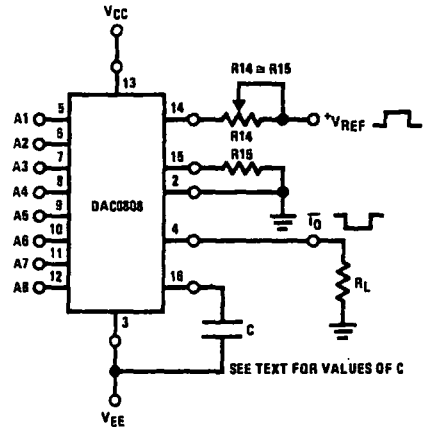

FIGURE 7. Positive  $V_{REF}$  (Note 7)
**Curve A:** Large Signal Bandwidth Method of Figure 7,  $V_{REF} = 2 V_{p-p}$  offset 1 V above ground.
**Curve B:** Small Signal Bandwidth Method of Figure 7,  $R_L = 250\Omega, V_{REF} = 50 mV_{p-p}$  offset 200 mV above ground.
The reference amplifier provides a voltage at pin 14 for converting the reference voltage to a current, and a turn-around circuit or current mirror for feeding the ladder. The reference amplifier input current,  $I_{14}$ , must always flow into pin 14, regardless of the set-up method or reference voltage polarity. Connections for a positive voltage are shown in Figure 7. The reference voltage source supplies the full current  $I_{14}$ . For bipolar reference signals, as in the multiplying mode,